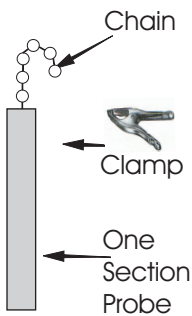

Figure 1
1. Remove the probe and the gauge from the shipping boxes. Take care to remove all packing materials (bubble wrap, tape, etc.) from the units. NOTE: Included in the information packet with the gauge, is a metal clamp. Attach the clamp near the top of the probe during installation. This clamp will keep the probe from falling into the tank during assembly. (See **Figure 1**) DO NOT REMOVE THIS CLAMP UNTIL INSTRUCTED TO DO SO AFTER CONNECTING THE PROBE TO THE GAUGE.